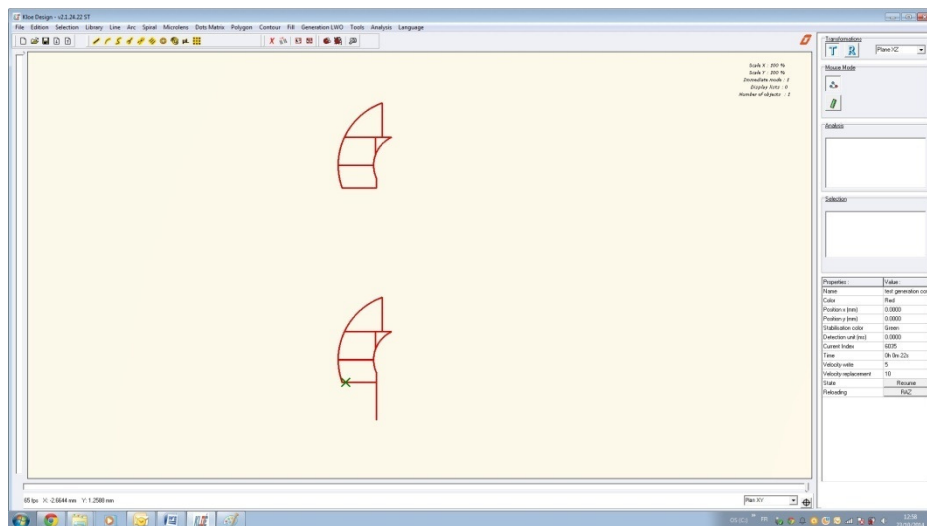

Fig 9 : Useless lines in polygon-based pattern.
- The user can see the proceedings of the simulation trajectories. It appears that there is many lines written, corresponding with the border lines of the polygons. Some of them are written inside the microfluidic channel, which is wanted to be filled (Fig9).